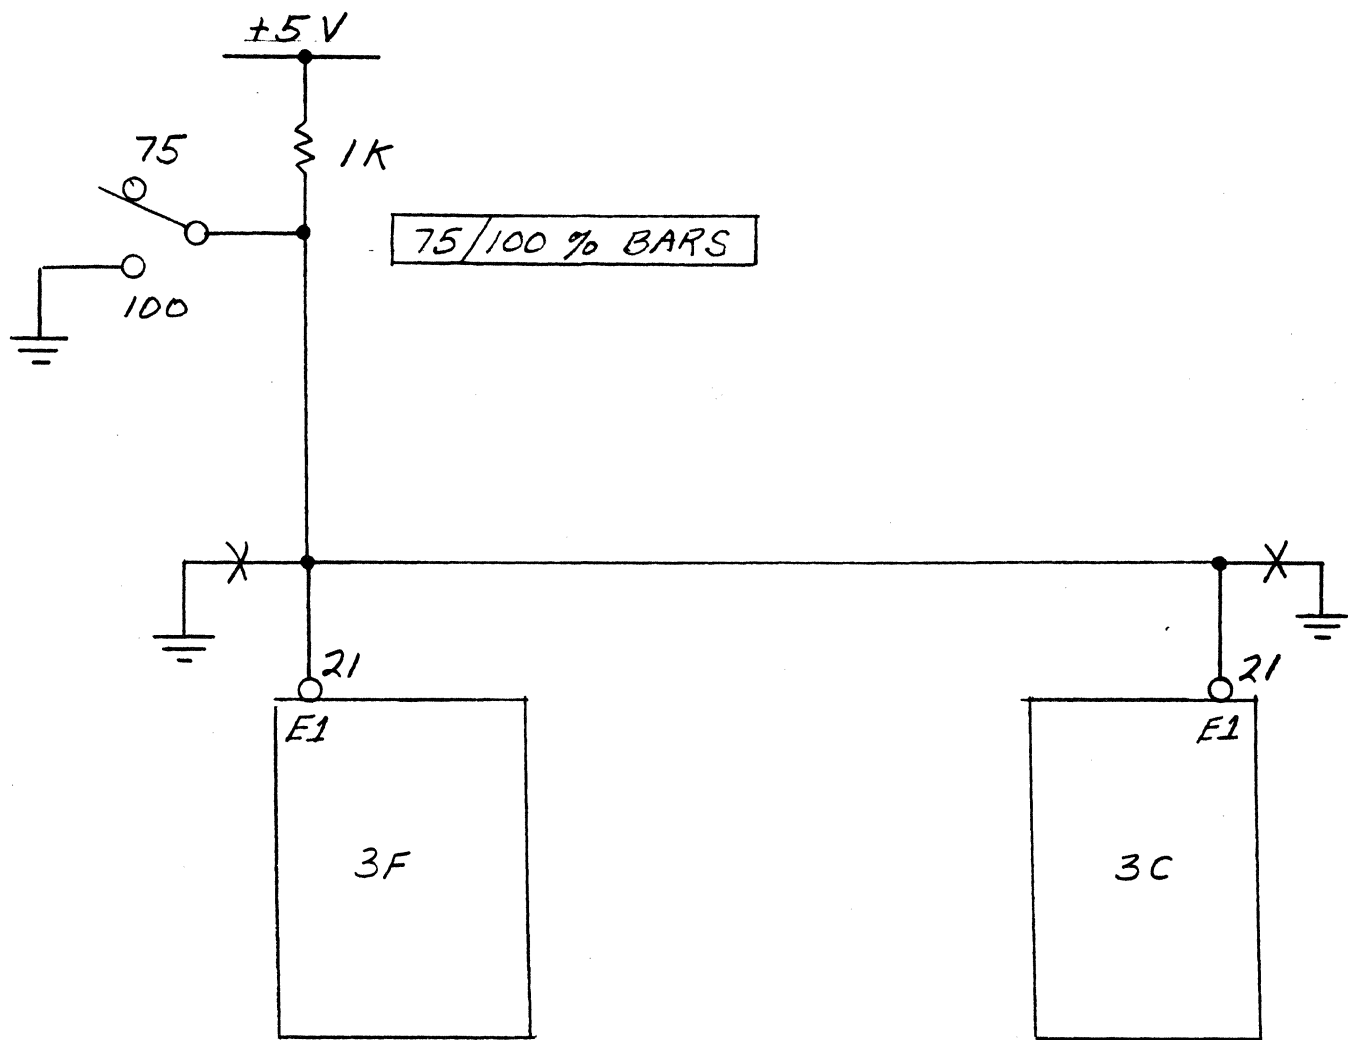

Figure 1
6. Connect the switch, pull-up resistor, and PROM 3C & 3F sockets - Pin 21 as shown in Figure 1.